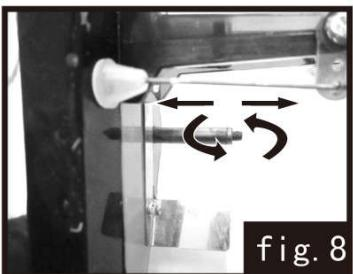

fig. 8
- 8.Spindle rotating forward and backward,pulls slowly,let the lubrication oil on the spindle tube wall evenly.(see fig.8)